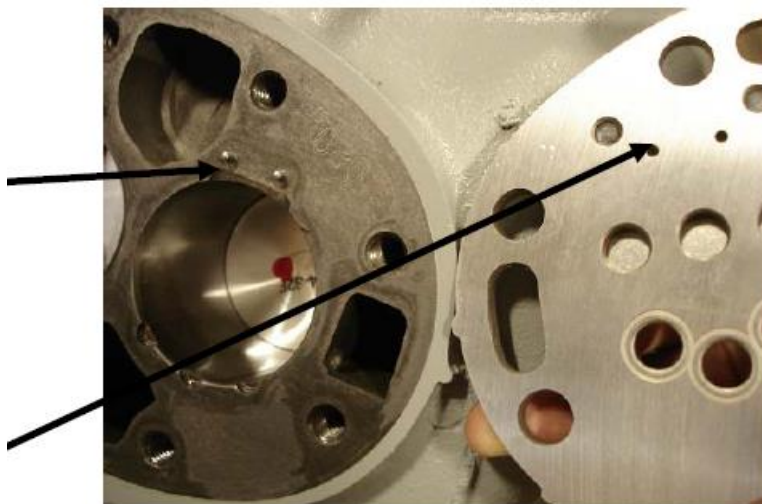
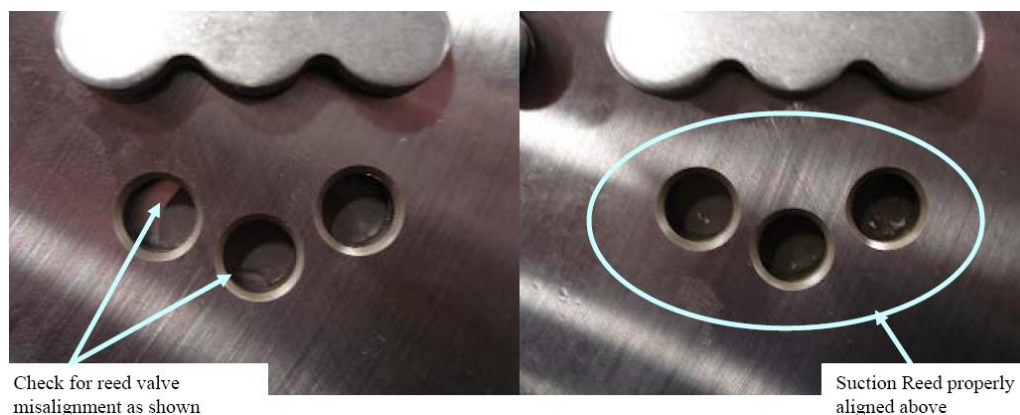

Figure 6
Figure 7
5. Place valve plate on cylinder deck and align with the dowel pin holes (Fig 6). Apply light pressure to keep gasket from moving. Look through the suction valve port to confirm the reeds are in the proper location (Fig.7).
Note: Use caution not to slide the valve plate gasket and knock the suction valve or spring from the dowel pins. See Figure 7 to confirm valves are in position.
6. Install cylinder head gasket and line up the gasket with the cylinder head and valve plate. See Figure 7 for correct gasket selection.